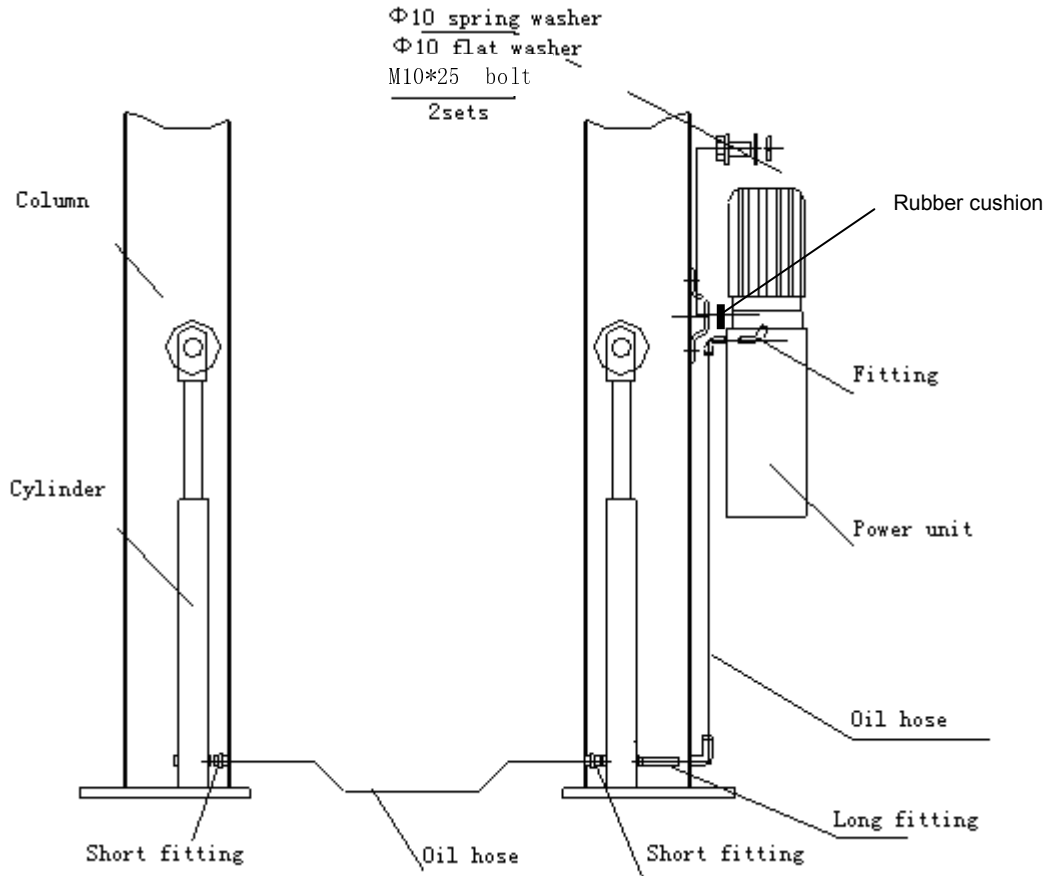

Fig. 14
- Use two M10 bolts and washers to fix the power unit (as shown in Fig.14). for TLT240SB models, install the hydraulic line as shown in Fig. 14 and tighten all the fittings to prevent oil leakage.